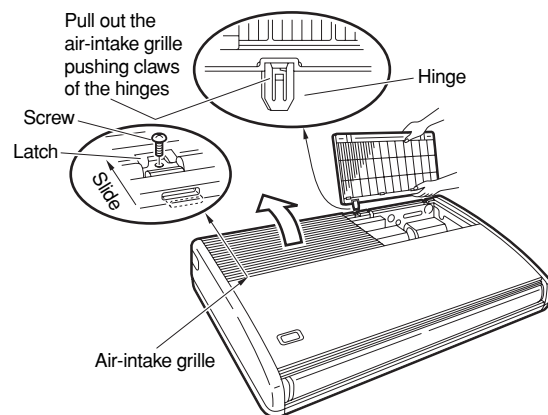
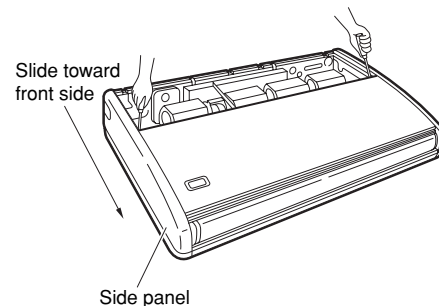

Fig. 3-95
Fig. 3-96
- (5) Before suspending the indoor unit, remove the 2 or 3 screws on the latch of the air-intake grilles, open the grilles, and remove them by pushing the claws of the hinges as shown in Fig. 3-95. Then remove both side panels sliding them along the unit toward the front after removing the 2 attachment screws. (Fig. 3-96)